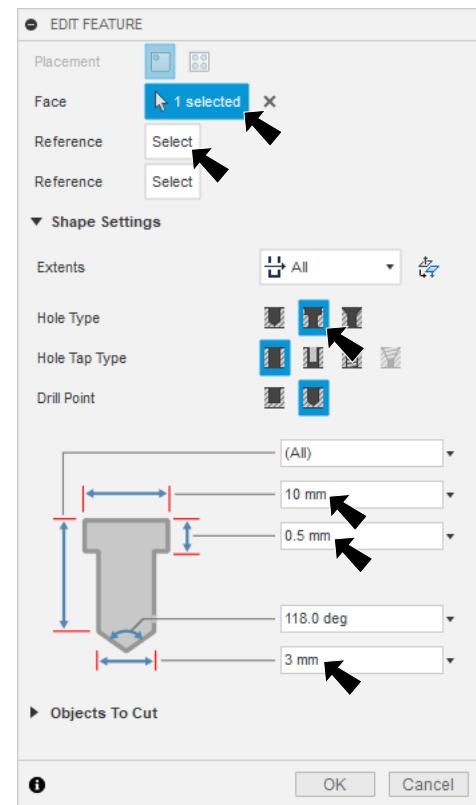

Fig. 10
Step 1. On the Solid tab **SOLID** click Hole (H) in the Create area of toolbar.
Step 2. In the Hole panel set, Fig. 10